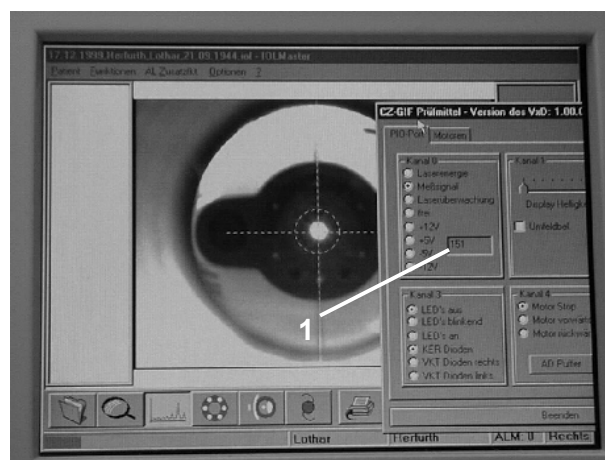

Fig. 19b
- Slowly and carefully move the IOLMaster to the left, right, top and bottom relative to the test eye. While doing this, watch the reading of the "Measuring signal" ((1) Fig. 19b) and look for the maximum reading (before adjustment, this reading typically lies between 130 and 132).